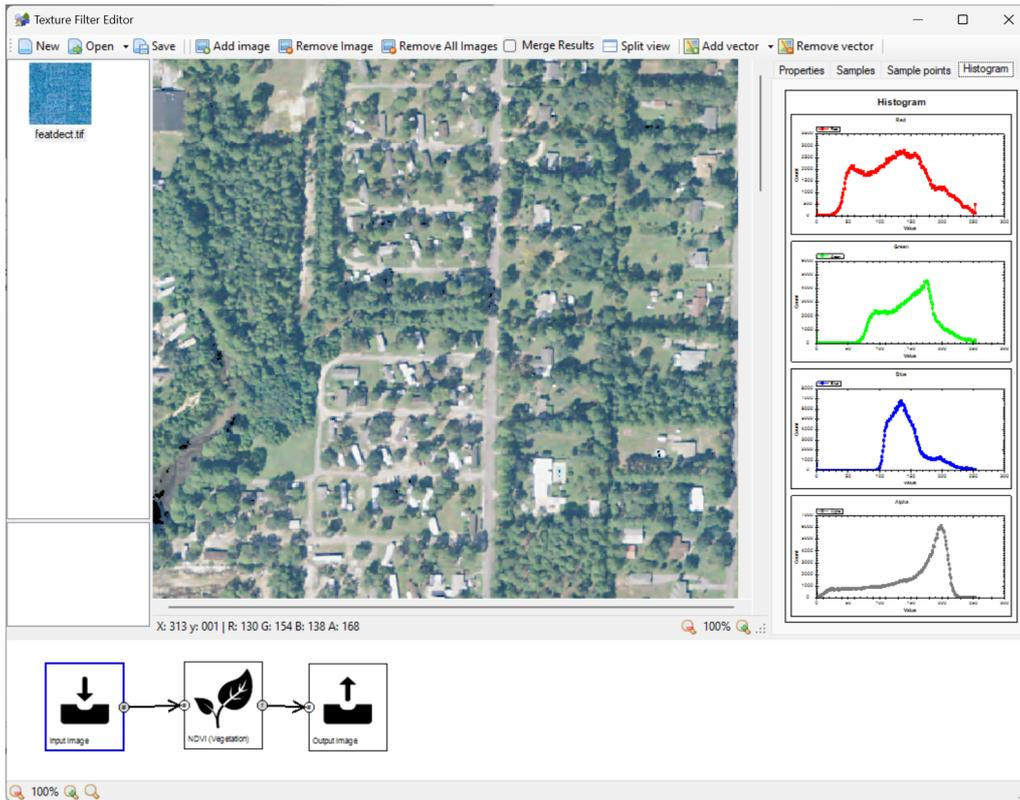

Figure 6.10: Histogram of the selected image
- **Histogram** shows the histogram of the currently selected image, see Figure 6.10. By looking at the histogram you can identify the characteristics of the image and that can help you to determine properties like threshold values.